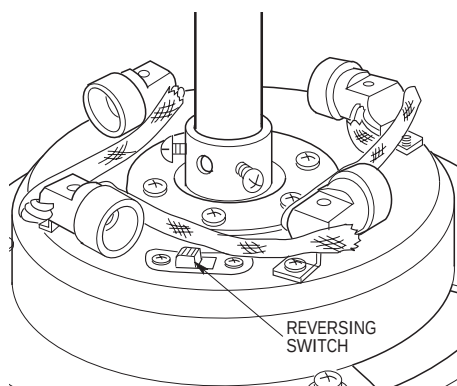

Figure 16
- 6. If airflow is desired in the opposite direction, turn the fan off and wait for the blades to stop turning. Then slide the reversing switch (on the motor and housing uplight assembly) to the opposite position (Figure 16) and turn the fan on again. The blades will turn in the opposite direction and reverse the airflow.